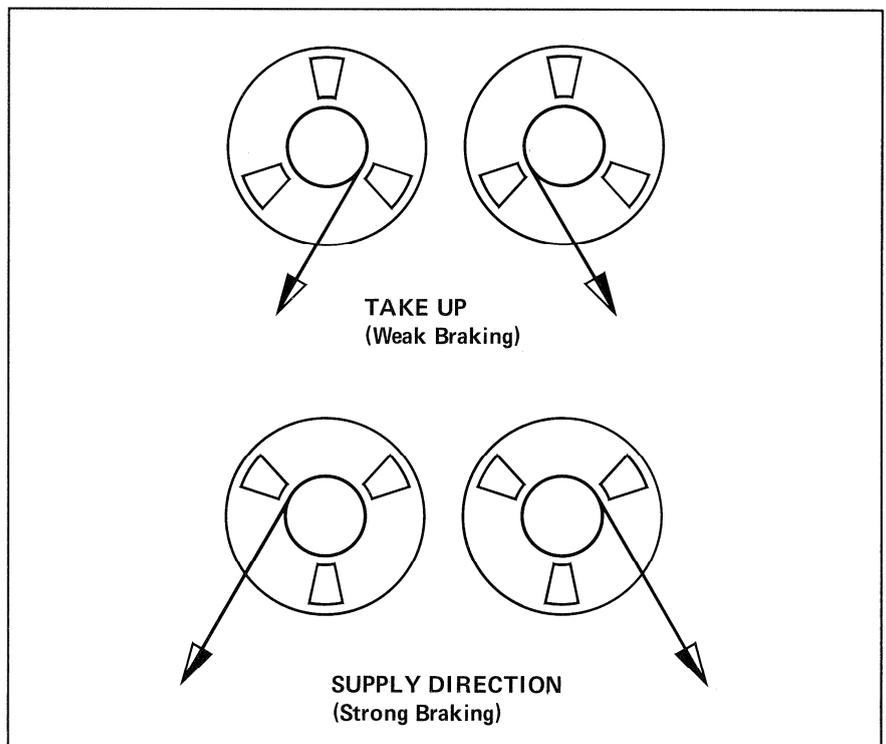

Fig. 17
- Mount an empty reel with 2 to 3 m of tape in the rewind direction, Fig. 17.
- Mount an empty reel with 2 to 3 m of tape in the normal play direction, Fig. 17.